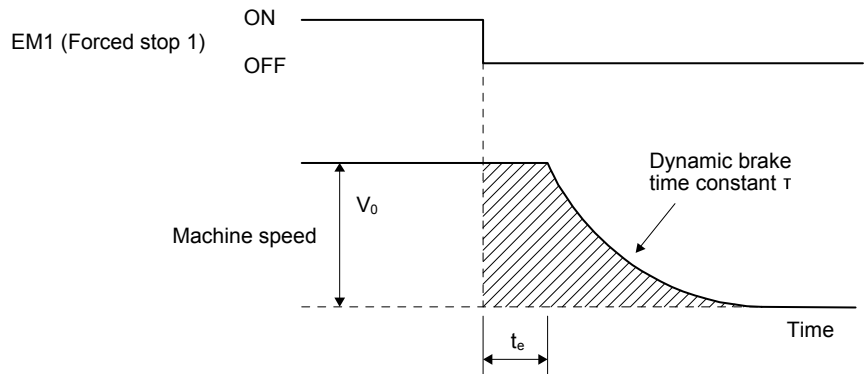

Fig. 10.3 Dynamic brake operation diagram
Fig. 10.3 shows the pattern in which the servo motor comes to a stop when the dynamic brake is operated. Use equation 10.4 to calculate an approximate coasting distance to a stop. The dynamic brake time constant  $\tau$  varies with the servo motor and machine operation speeds. (Refer to (2) of this section.)